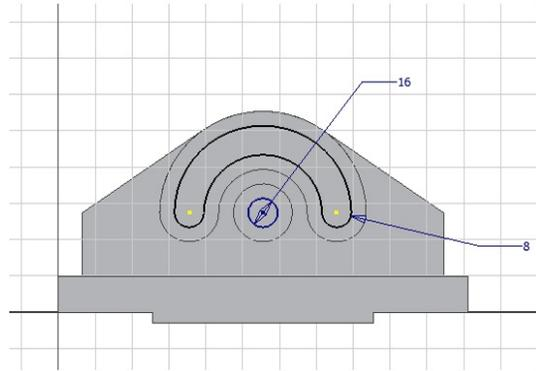

Figure 6-122 Offset sketch for the cut feature
1. Define a new sketch plane on the front face of the semicircular feature. When you define the sketch plane on the semicircular feature, a sketch defining the semicircular feature is drawn. Offset this sketch inside, refer to Figure 6-122. Note that after invoking the **Offset** tool, you need to right-click, and then choose the **Loop Select** option from the shortcut menu. This ensures that the entire loop is offset. Since you have used a reference entity to draw the inner sketch, you need to specify just one dimension value, that is, the radius of any of the arcs.
2. Draw the sketch for the cut feature and the circle for the hole, refer to Figure 6-122.